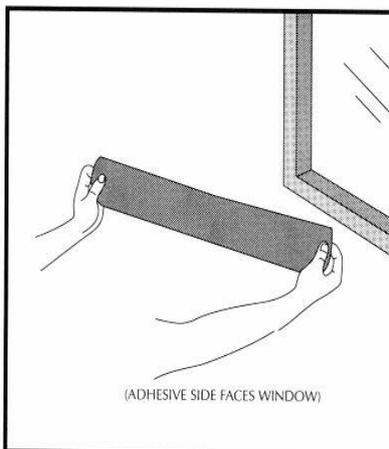
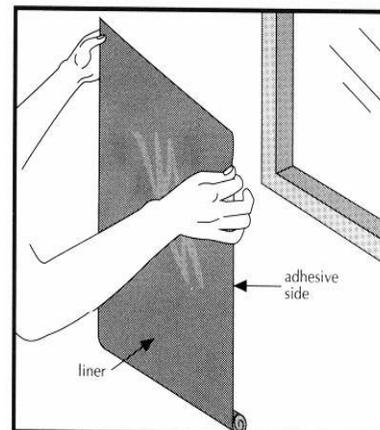

Figure 8
Figure 9
- 1) Toss the roll lightly toward the ground while tightly holding the 3-inch portion of the film in your fingertips (See Figure 8). The release liner will unpeel from the adhesive's surface and then appear on the opposite side (See Figure 9). You can now install the film.